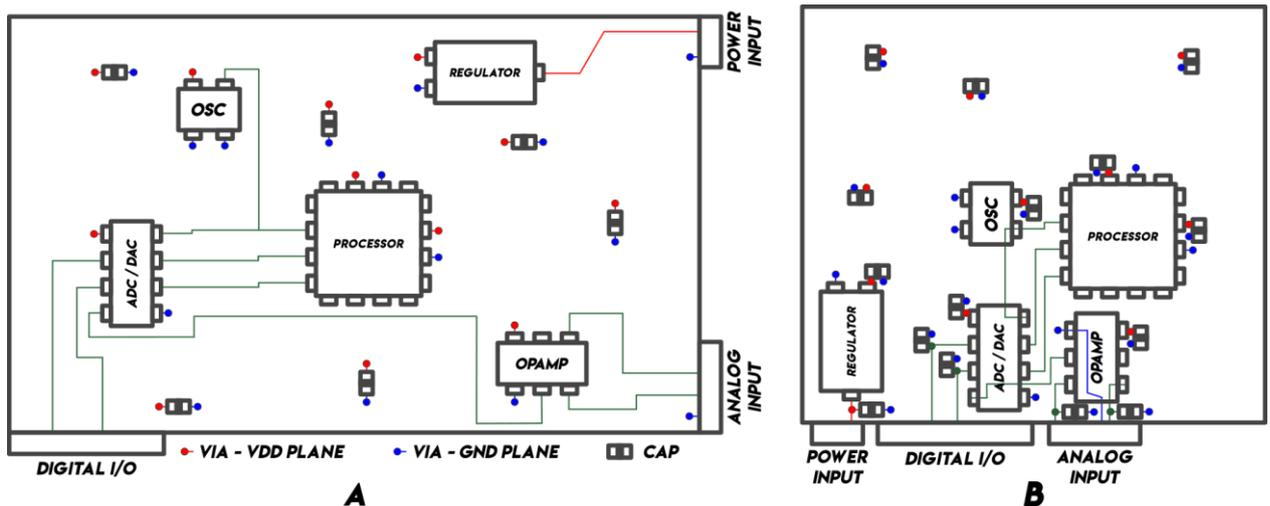

Figure 1: (A) 4-layer PCB design, (B) PCB design in accordance with 4-layer EMC rules.
- 1- In PCB design, physical properties of traces and components should be considered (*Figure 1*).